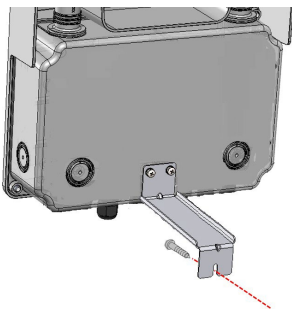

Figure 19: Securing the Connection Unit to the wall
4. Mark the location of the drilling hole required for the screw that secures the bracket of the Connection Unit to the wall (See Figure 19) and remove the inverter from the wall.
The DC Disconnect Switch of the Connection Unit disconnects all ungrounded DC conductors in compliance with the National Electric Code (NEC; Specifically NEC690.35, which addresses ungrounded PV arrays). The Connection Unit is rated to the maximum operating conditions of the inverter. Inverters of different models are equipped with different sizes / types of terminal blocks. Figure 19 shows a Connection Unit with four DC pairs.